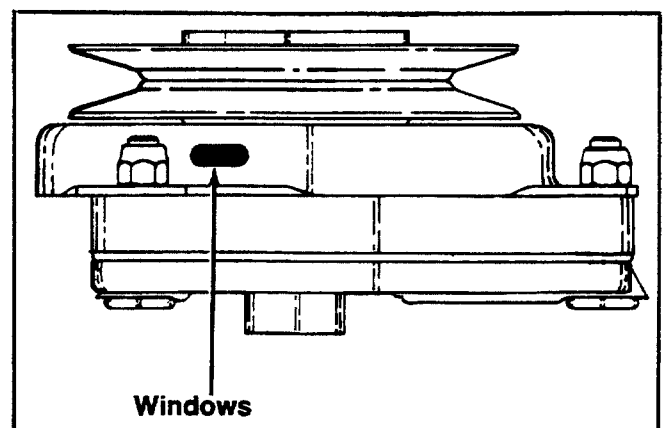

FIGURE 3.
2. Locate the three "windows" or "notches" where the air gap is checked. See figure 3.